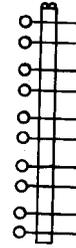

Fig. 10—240D Plug
- (d) **240D:** The 240D plug (Fig. 10) is used with 354-type jacks on step-by-step switches.